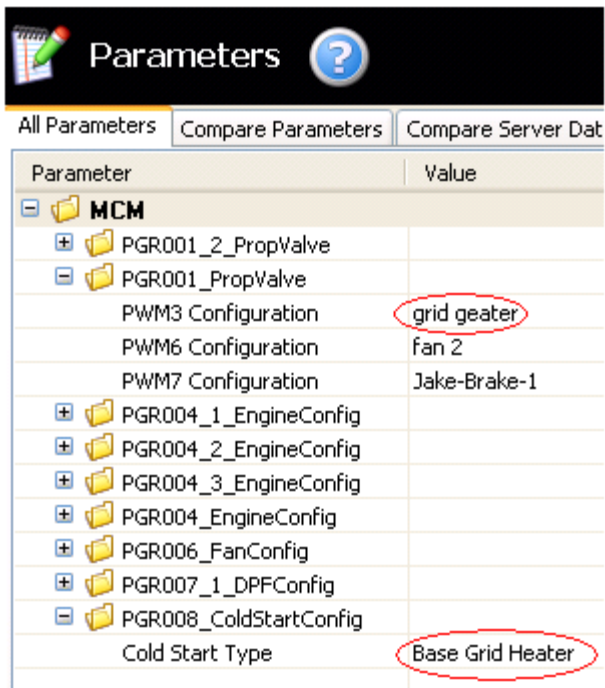

Figure 5 – EPA 07 Parameter change verification
15. For EPA07 only: If the grid heater was originally a grey cover 3.6 kW grid heater (P/N A0001592404), replaced with a black cover 2.7 kW grid heater (P/N A0001595204), reprogram the MCM with latest software in DDRS. Verify the correct parameters have been changed. See figure 5.